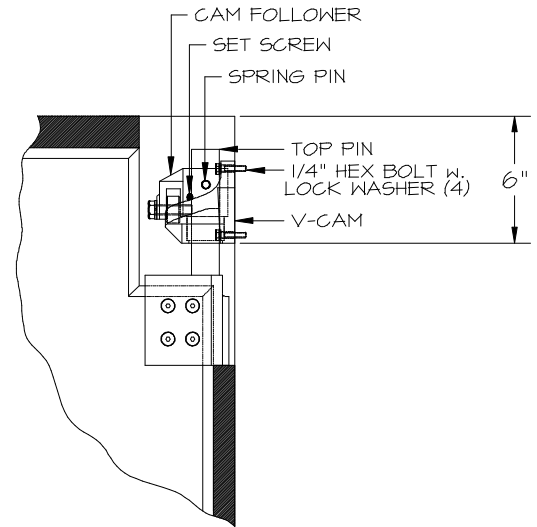

FIG. 2
- Center v-cam along plumb line at top of door jamb (Figure 2).
a. Place top hinge hardware onto top panel shaft in the following order (Figure 2):
- Top Shaft (Figure 2), mounted in the v-cam.